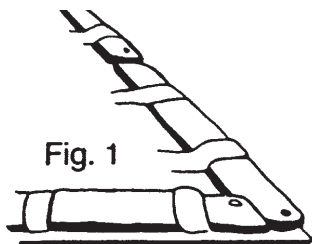

Fig. 1
5. The water bags **must** cover the entire perimeter of the cover to prevent wind from getting under the cover and causing the cover to billow or flap. **Caution, such billowing or flapping in the wind can cause serious damage to your cover.** Therefore, be sure the water bags are placed end-to-end (See Figure 1).